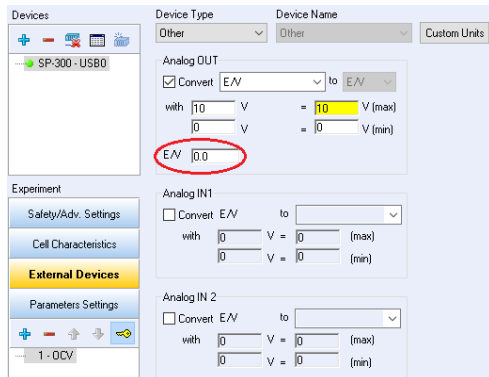

Figure 4: Analog Out settings for calibration with ITS.
- Load “OCV” technique (Fig. 4).
- Go to “External Devices” tab and select “Other” in “Device Type” and “Other” in “Device Name” box (Fig. 4).
- Set a first setpoint voltage (for example 3.0 V) in the circled box on the Fig. 4 and press on the yellow key button to validate the setpoint voltage.